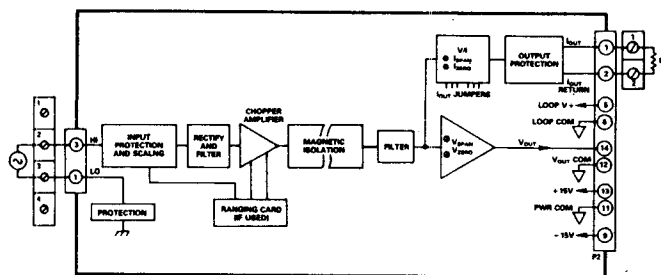

Figure 2.1.12.1 OM3-ACV Functional Block Diagram
Figure 2.1.12.1 shows a functional block diagram for OM3-ACV models. Input protection of up to 220V rms (550V rms for model OM3-ACV-150V, 250V) is provided on the input screw terminals. Each module uses an ac averaging technique. The input signal is rectified, filtered and scaled to give an rms reading for a sine-wave input. This scaling is not accurate for other input waveforms. Transformer coupling is used to achieve stable, galvanic isolation between input and output. Both the voltage and current outputs can be independently adjusted over a $\pm 5\%$ span range for zero and span with front panel accessible potentiometers. The current output, which has 130V rms output protection, interfaces with user equipment through screw terminal connections.
1. Connect the unit as shown in Figure 2.1.12.1 with $R_L = 250\Omega$.